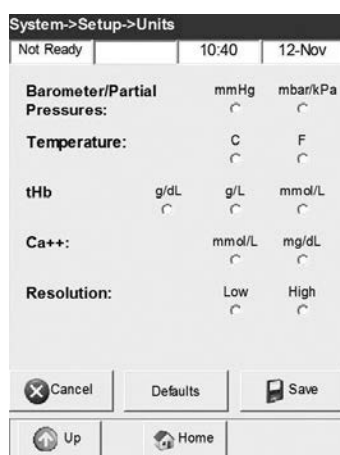

Fig. 3-22 Select Units
3. In the **<Units>** screen, select the units for the displayed parameters (Fig. 3-22).